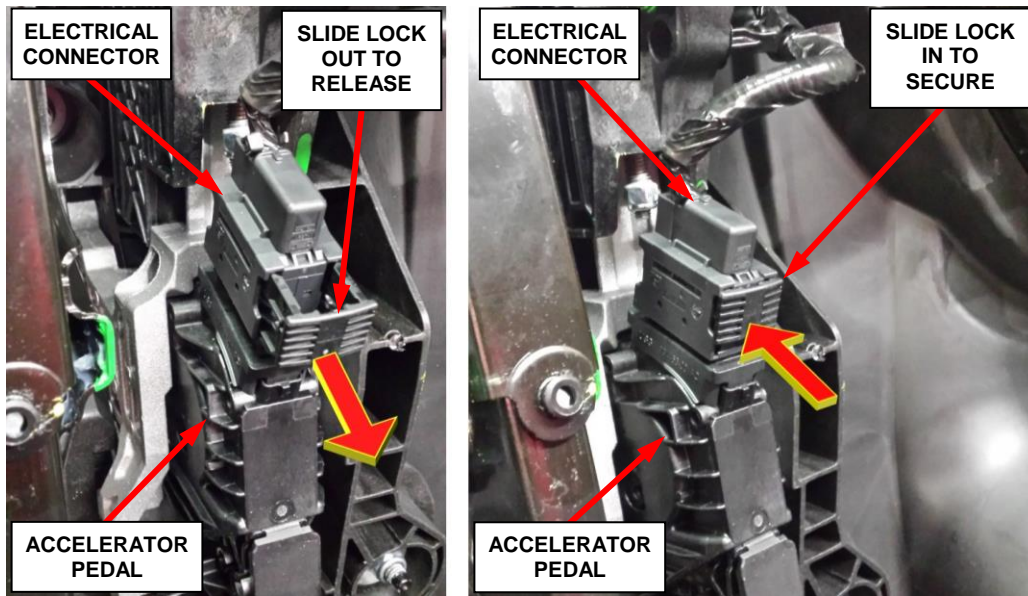

Figure 5 – Accelerator Pedal Electrical Connector Slide Lock Style
- 3. Disconnect the electrical connector from the accelerator pedal (Figures 5, 6).